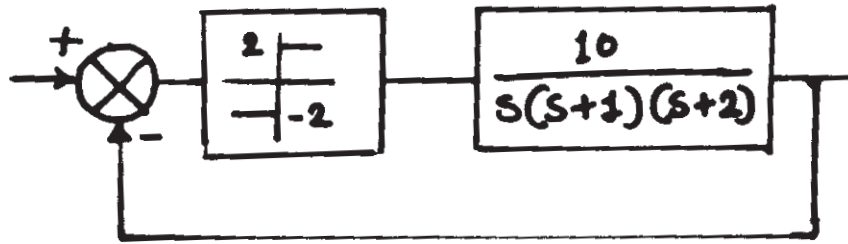

fig 8b
- b) For the system shown in figure 8b, determine the amplitude and frequency of the limit cycle. [8]